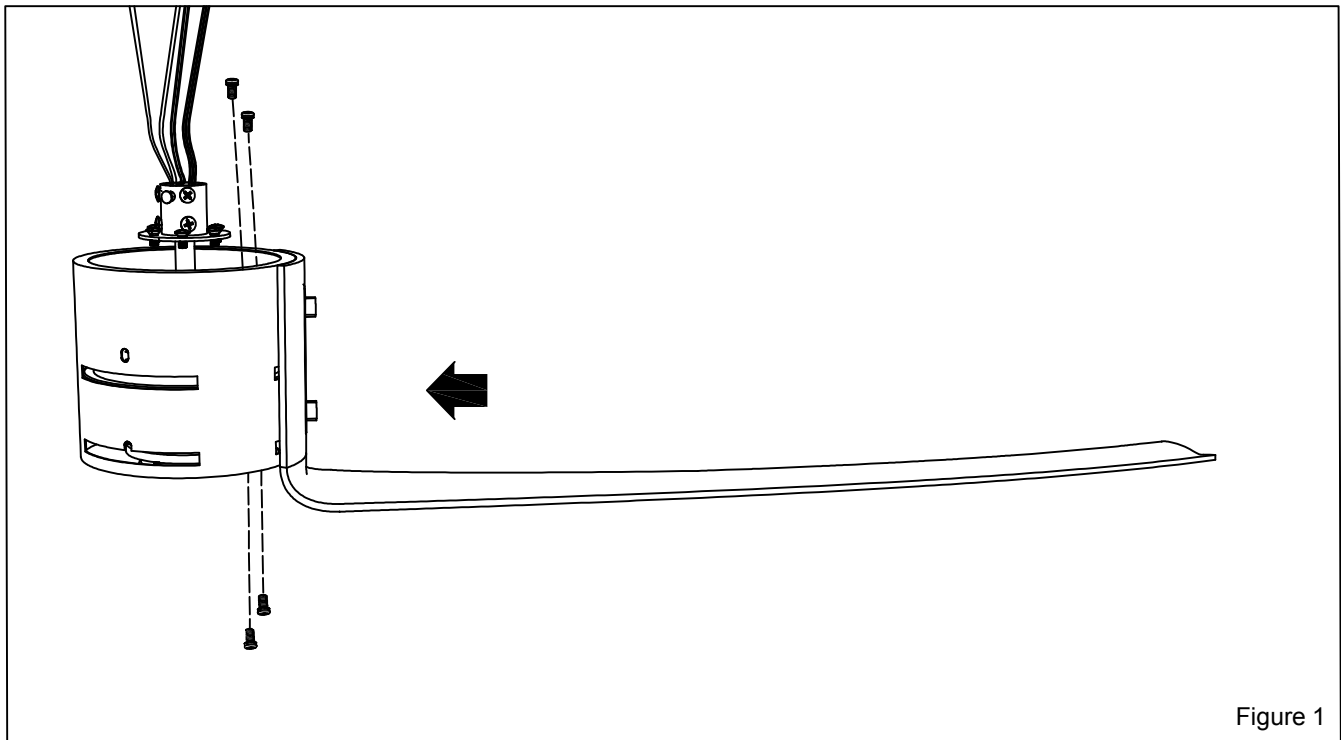

Figure 1
- Align the fan blade with the motor hole and tighten the screw.(Figure 1)